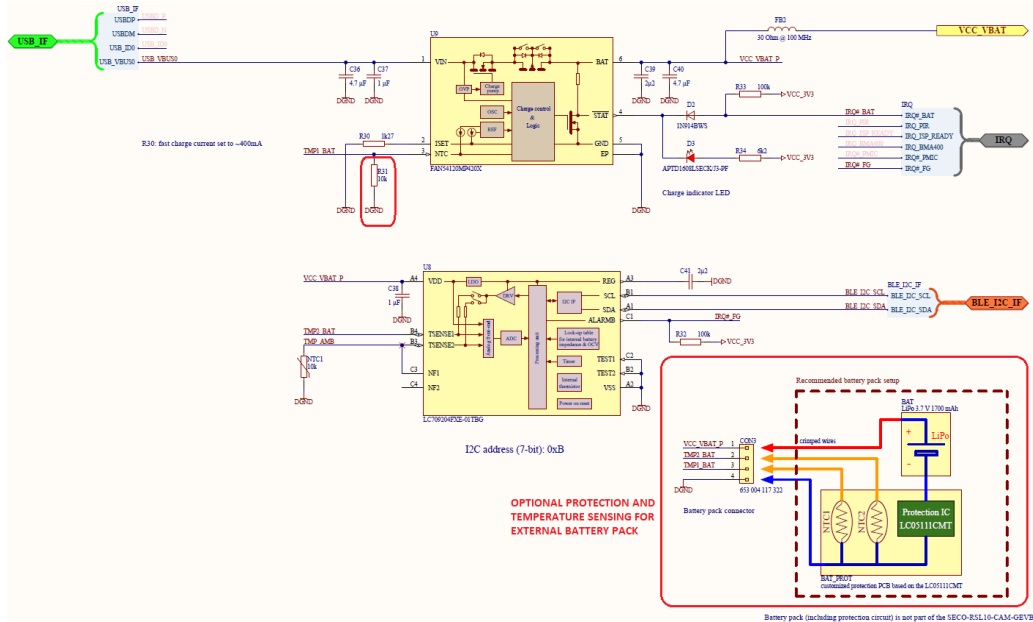

Figure 9. R31 = 10 kΩ to be Removed Once External Li Battery and its Protection Circuit Connected
1. Remove R31: the 10 kΩ resistor emulates the external NTC sensor. As the board is not delivered with a battery, this dummy resistive load must be connected towards FAN54120 (Figure 9).